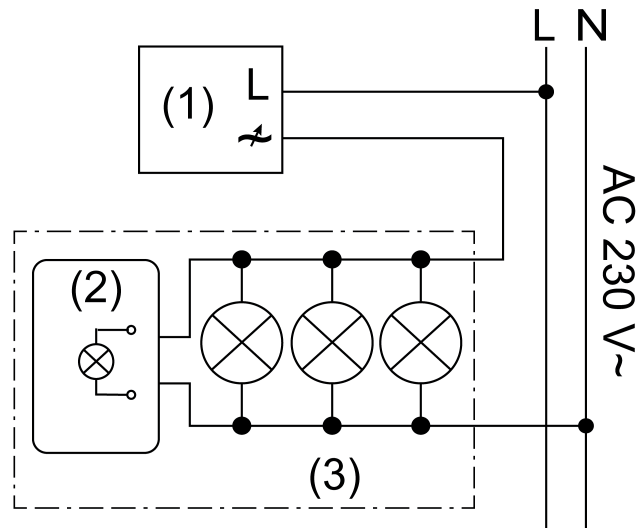
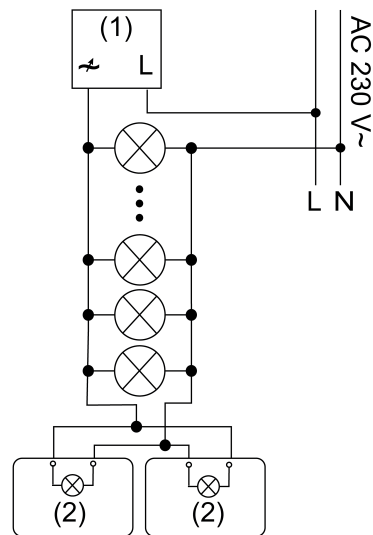

Figure 1
Figure 2: Example for connection in luminaire housing
- (1) Dimmer in trailing edge phase control operation
- (2) Module
- (3) Luminaire with HV-LED lamp
- Connect the module to neutral and to the dimmed phase, parallel to the HV-LED lamp, (Figure 1) Example for connection in luminaire housing, (Figure 2) Connection example with two modules.